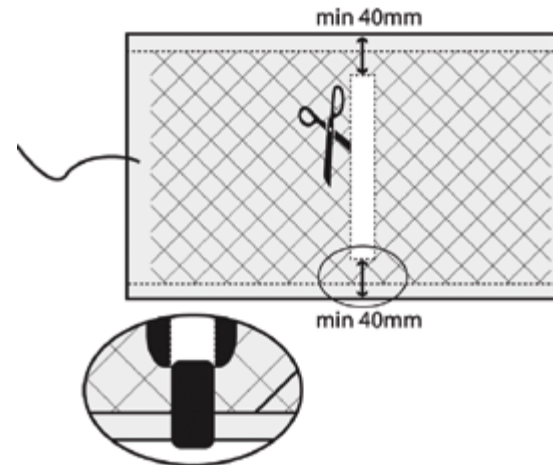

Fig. 2
12. Never cut the electrode while making a cutout, be sure to keep a minimum space of 40 mm! (Page 17; Fig. 2)